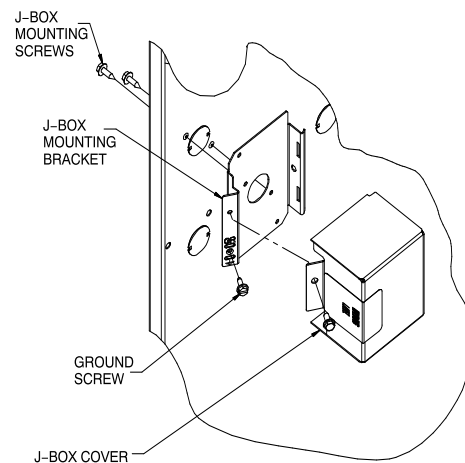

Fig. 35 – Installing J-Box (When Used)
The J-Box cover, mounting bracket and screws are shipped in the loose parts bag included with the furnace. See Fig. 35 for J-Box mounting locations.
1. Install J-Box mounting bracket to inside of furnace casing (Fig. 35).
5. Connect field ground wire and factory ground wire to green ground screw on J-Box mounting bracket as shown in Fig. 35.
7. Attach furnace J-Box cover to mounting bracket with screws supplied in loose parts bag. Do not pinch wires between cover and bracket (Fig. 35).
4. Connect field ground wire and factory ground wire to green ground screw on J-Box mounting bracket as shown in Fig. 35.